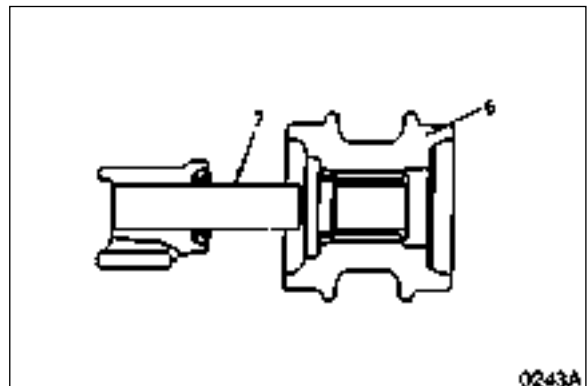

Figure 44
3. Separate the roller (6, Figure 44) from the axle (7).